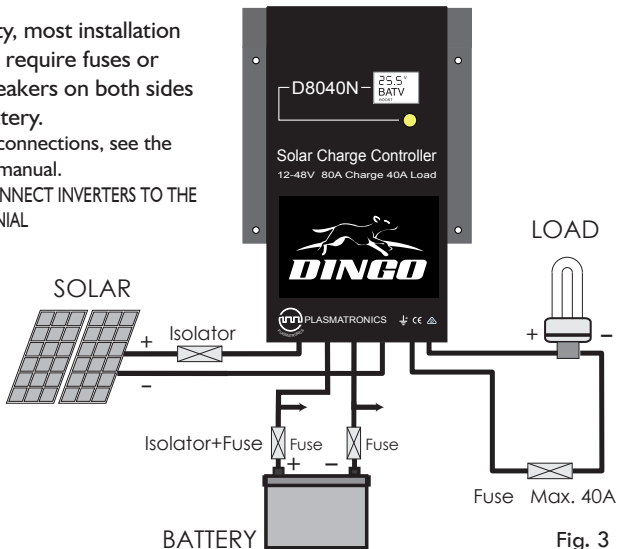

Fig. 3
- Connect the battery first. Positive to Battery +, Negative to Battery -. If the display comes on, then connection is correct. (see figure 3)